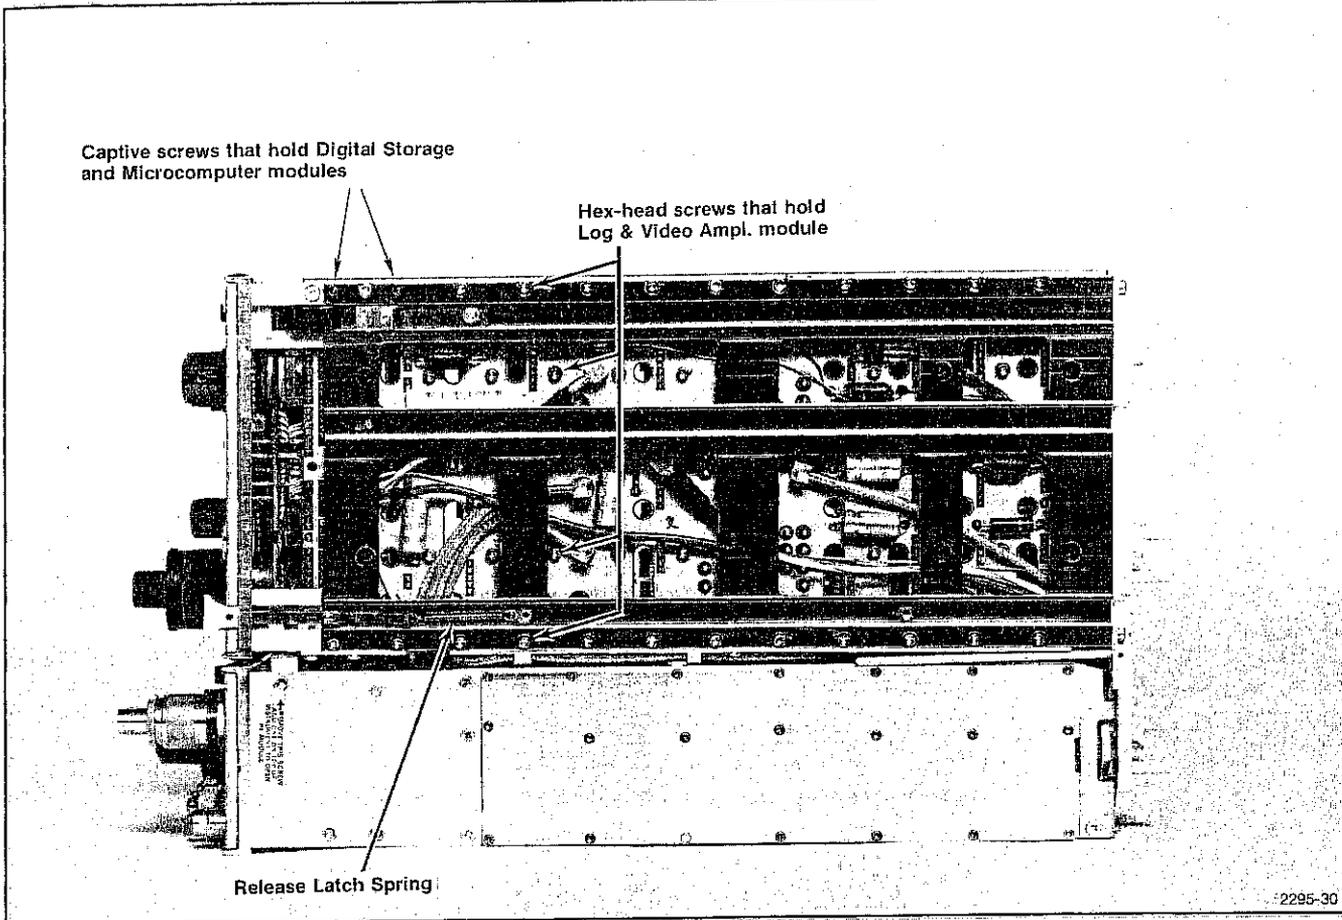

Fig. 4-22. Location of the Hexagonal Head Screws That Hold the Plug-in Module Assemblies.
e. Invert the 7L18 and for any module, except Digital Storage, remove the four screws (see Fig. 4-22) that extend through the bottom of the instrument into the module being separated from the Right section. The Digital Storage Module is also fastened with four screws through the bottom of the instrument, but one is captive (see Fig. 4-22) between the outside-bottom rail and the instrument chassis. To remove this module, first remove the three non-captive screws, then unscrew the captive screw. The screw will remain in place, but the unscrewing action will force the module away from the bottom of the instrument.
b. Invert the instrument and disconnect the retaining spring (see Fig. 4-22) to the front panel LATCH. The front panel can now be opened.